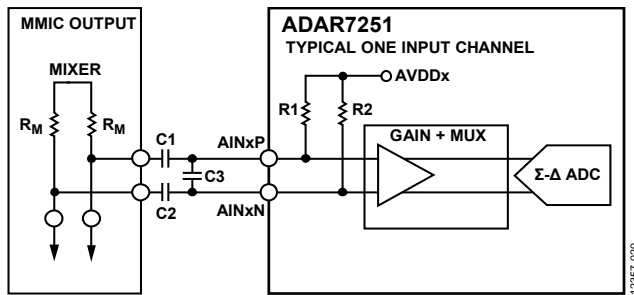

Figure 29. Typical Differential Input Channel Configuration
The ADAR7251 main ADC input channel consists of an LNA, a PGA, a continuous time  $\Sigma$ - $\Delta$  ADC, and internal bias resistors that set the common-mode voltage on the input of the LNA. The PGA includes an equalizer (EQ) function that gains up low amplitude, high frequency signals. Typically, in an automotive radar application, the analog inputs of the ADAR7251 connect directly to the mixer output (See Figure 29). If additional external filtering is required, the external C1, C2, and C3 capacitors can be used. These capacitors, together with the R1, R2, and the mixer output impedance, create an external filter that removes dc components and high frequency noise from the ADC inputs.
where  $R1 = R2$  (typical) is 2.86 k $\Omega$  and  $C2 = C1$  (see Figure 29).